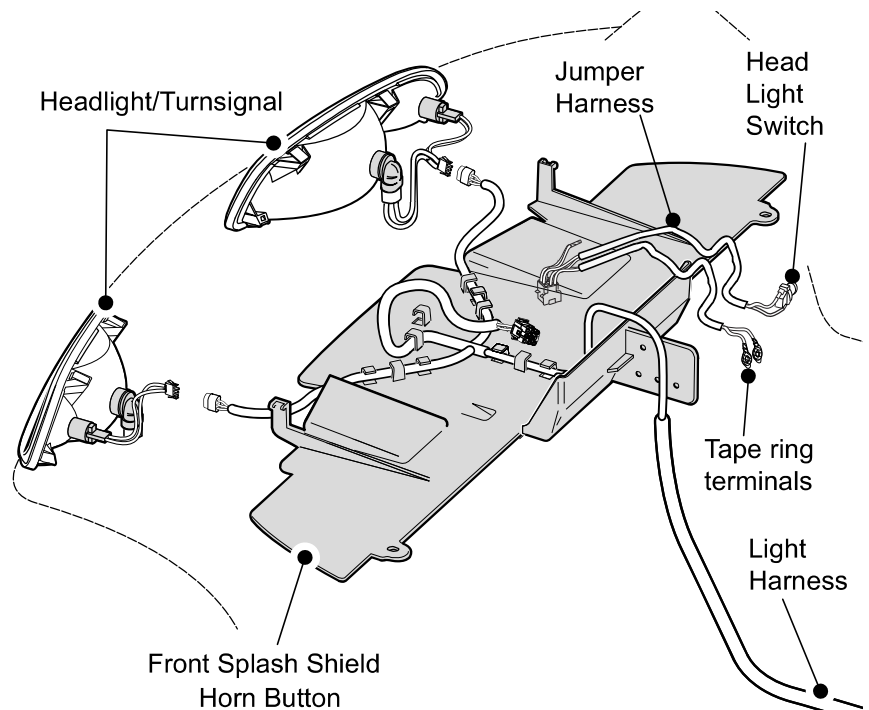

Figure 5
22. Route the rest of the harness down through the cup holder and in through the floorboard channel and under the rear body, along with the main wiring harness. **Make sure that the harness sits below the level of the floor.** Route the Light harness for the driver side brake light between the rear body and the battery pack and around the driver's side of the battery pack to the splash shield. Secure the wires in the guides on the splash shield. See figure 5.